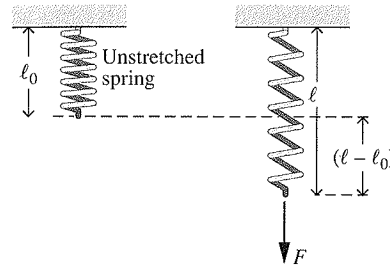

Fig. P2.45
- 2.45 As shown in Fig. P2.45, a spring having an initial unstretched length of ℓ_0 is stretched by a force F applied at its end. The stretched length is ℓ . By Hooke's law, the force is linearly related to the spring extension by $F = k(\ell - \ell_0)$ where k is the stiffness. If stiffness is constant,